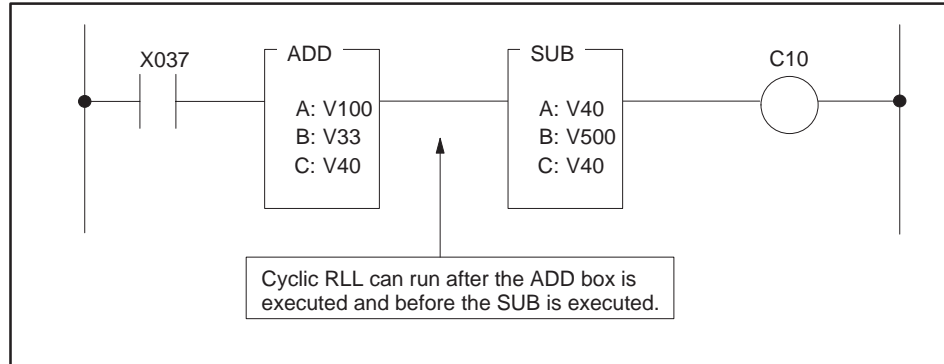

Figure 5-10 Example of Cyclic RLL Execution Interrupt
**NOTE:** The execution of a cyclic RLL task is not synchronized with the normal I/O update or the normal RLL execution. If a cyclic RLL task uses a value computed by the normal RLL task, you must plan your program carefully to ensure correct operation when the value is not fully determined. For example, the cyclic RLL task can run between the execution of the ADD and SUB boxes in Figure 5-10.